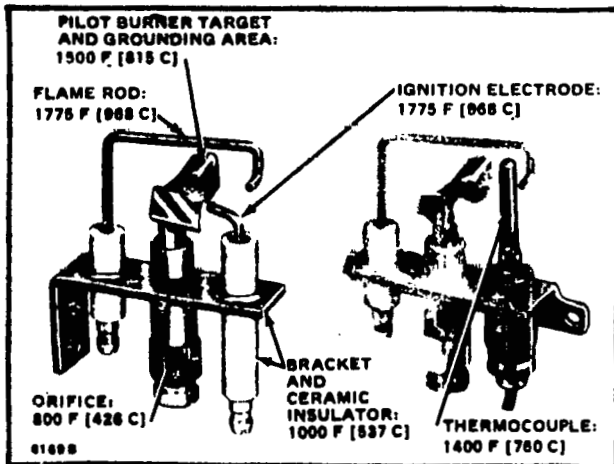

FIG. 3—MAXIMUM TEMPERATURES.
**THERMAL RATING:** See Fig. 3.